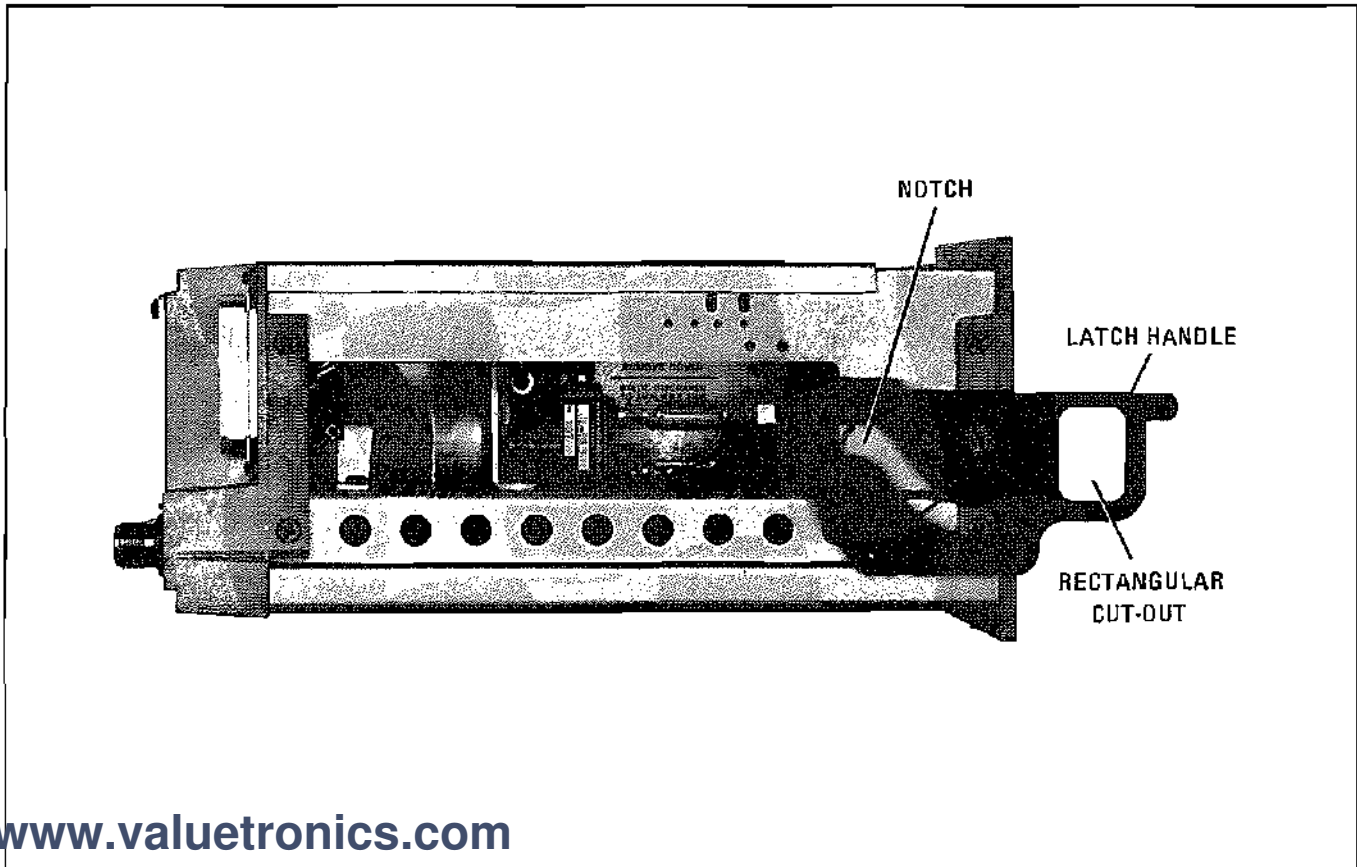

Figure 2-3. RF Section Latch in Release Position
- b. Position latch handle located on left side of RF Plug-in so it is perpendicular to front panel. Portion of handle with rectangular cut-out should be facing forward and portion with notch should be facing rear of RF Plug-in as shown in Figure 2-3.
- a. Push inward on top of latch handle, shown in Figure 2-3, and pull forward and up on bottom of latch handle.